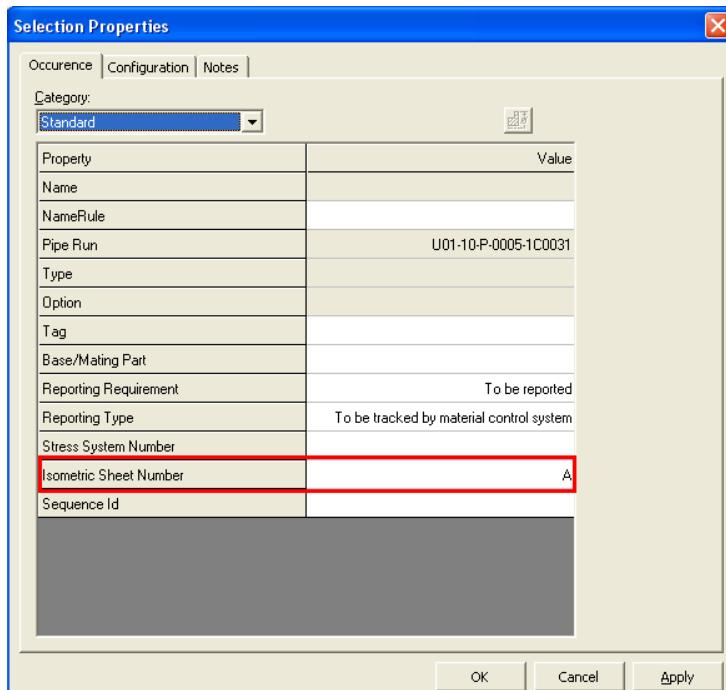

Figure 18.29: Selected Pipe Parts Properties
- Right-click the selected parts and open the properties dialog box to assign the selected piping parts to an isometric sheet number A for creating an isometric drawing. Key in A in the **Isometric Sheet Number** box in the **Selection Properties** dialog box, as shown in Figure 18.29, and click OK.